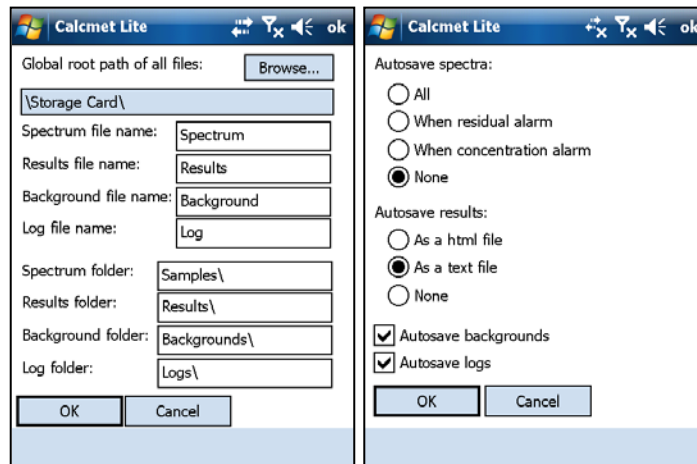

Figure 19. Save spectrum files.
- Store the sample spectra (Figure 19). Sample spectra can then be downloaded onto the computer and be post analyzed using Calcmet software. Go to Settings → Autosaving → Autosave Spectra: All. Go to Settings → Save paths and click “Browse...” to specify the root folder for saving files, the various file sub folders and the name given to the saved spectrum files. Use the “built in” keyboard to enter the spectrum name.